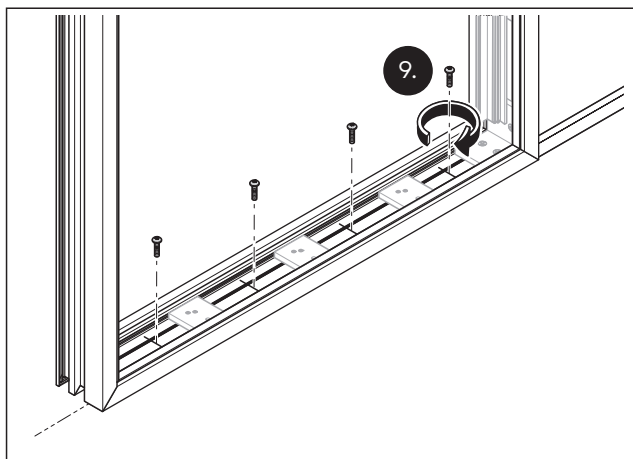

Fig. 24 Secure the acoustic element frame to the floor
9. Fix the acoustic element frame to the floor with suitable fixing materials (Fig. 24).